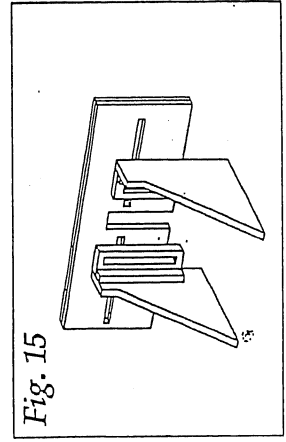

Fig. 15
13) When all is dry, assemble the alignment head as shown in fig. 15. Make sure that the heads of the bolts are on the side of the basswood with the bigger slot...this way the head of the bolt and the washer will be recessed. Finish the assembly with washers and wing nuts on the other side.